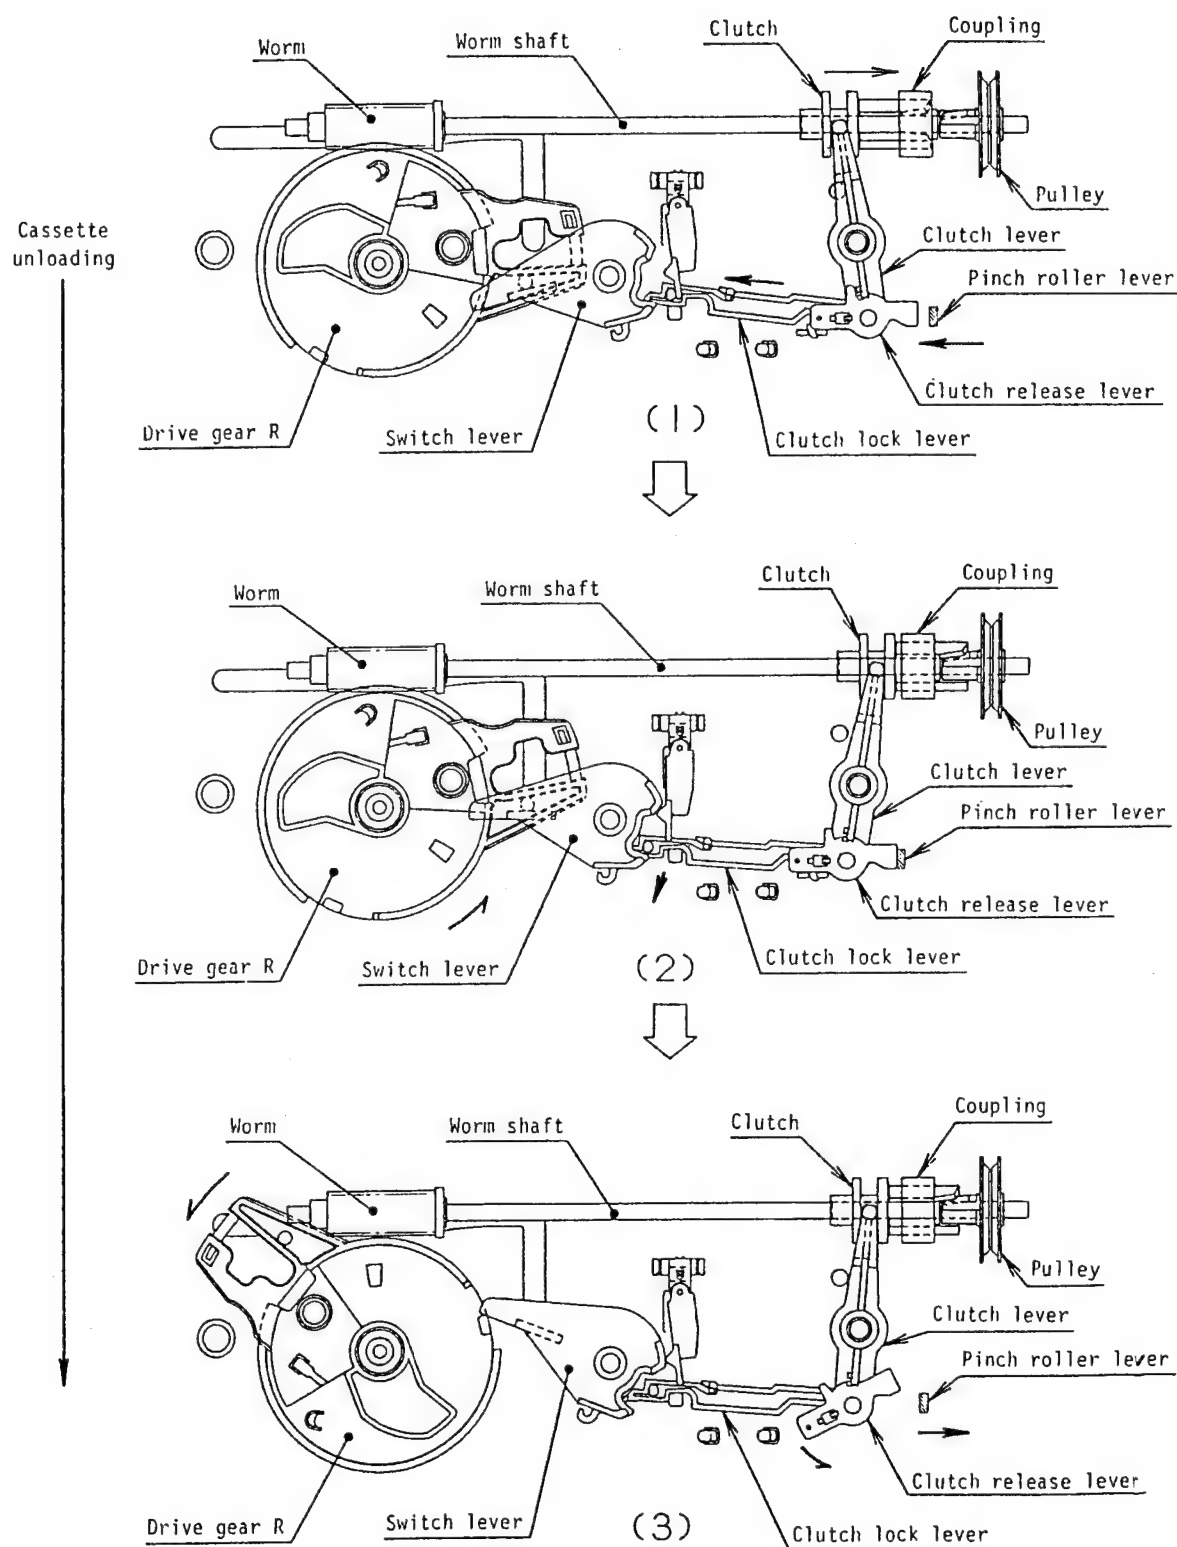

Figure 1-25. Clutch Shifting Sequence during Cassette Unloading
The clutch is located as shown in Figure 1-25.(1) when the cassette has been loaded. In this condition the driving force of the pulley is not transmitted to the worm. As the pinch roller lever moves in the direction of arrow (a), the clutch, clutch lock lever and clutch release lever move in the directions (b), (c) and (d), respectively, bringing the positional relation in Figure 1-25.(2).
At this time, the clutch lock lever is released from the switch lever and then fixed to the projection on the frame. By this the clutch is kept at a position even when the pinch roller lever comes to the position shown in Figure 1-25.(3).
When the drive gear R rotates to the position shown in Figure 1-25.(3), the switch lever turns on the switch and the motor stops. Now the cassette has been completely unloaded.